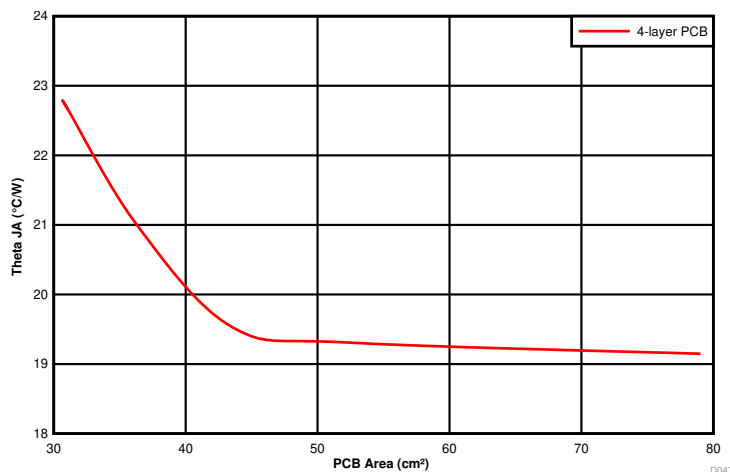

图 45. $R_{\theta JA}$ versus PCB Area (per layer)
The amount of PCB copper affects the thermal performance of the device. 图 45 shows the effects of copper area on the junction-to-ambient thermal resistance ($R_{\theta JA}$) of the TPSM53602. The junction-to-ambient thermal resistance is plotted for a 4-layer PCB with PCB area from 30 cm² to 80 cm².
3. Reference 图 45 to determine the minimum required PCB area for the application conditions.